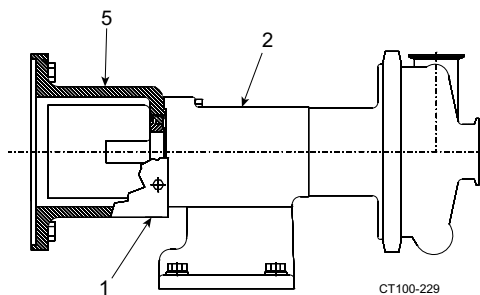

Figure 4 - Style D
The style D arrangement includes the bearing housing (2), motor adapter (5), and coupling cover (1), for use with NEMA C-Face motors. (Figure 4).